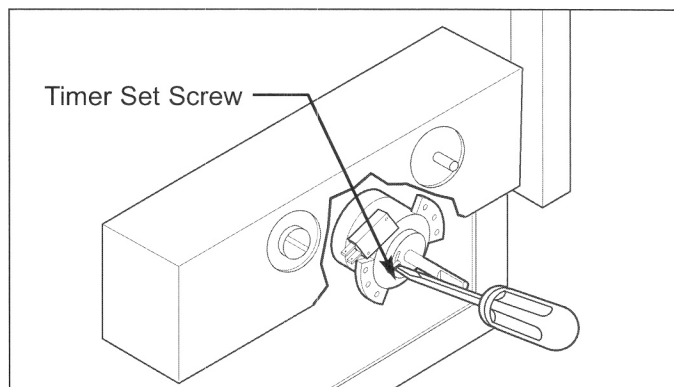

Figure 4-18. Loosen Set Screw
4. Rotate one half of the cam to either open or close the lower portion of the cam. More open increases harvest time, less open decreases harvest time. (See Figure 4-18)